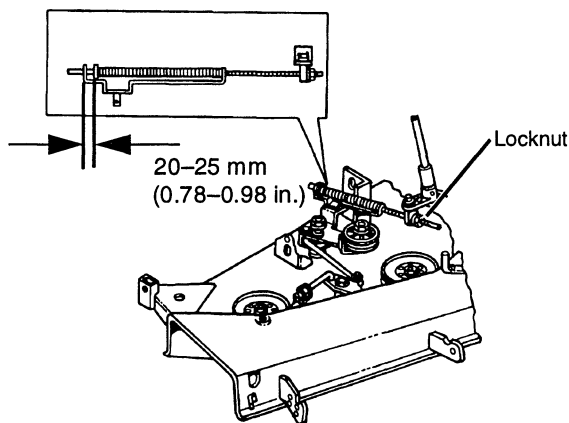

FIG. 35
- Measure distance from bracket to washer on tension rod. (See Fig. 35)
IMPORTANT: Do not attempt to loosen lock nut (See Figure 35) on tension rod without using a suitable wrench to support fitting.